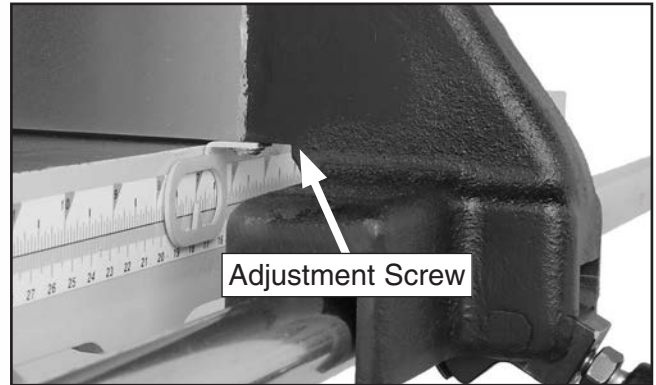

Figure 41. Fence pointer.
4. Loosen the pointer adjustment screw shown in Figure 41, set the pointer in line with the "0" mark on the scale, then re-tighten the screw.